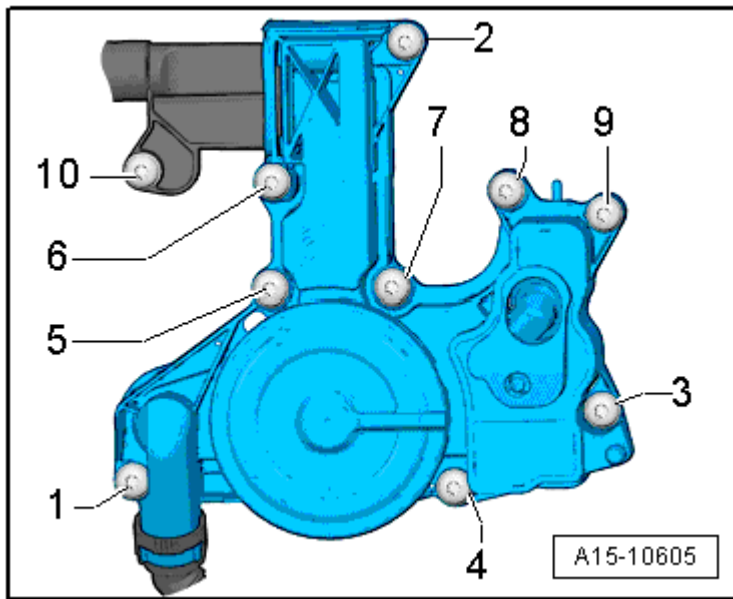

Fig. 2: Identifying Crankcase Ventilation - Tightening Sequence
- Tightening sequence, refer to **Fig. 2**.
- Observe the tightening sequence, refer to **Fig. 2**.